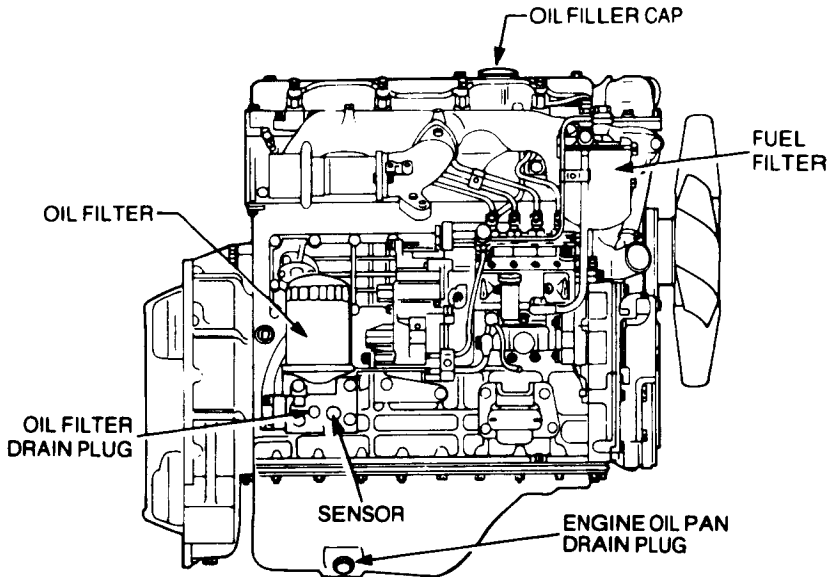

Figure 3-5 Engine — right hand side
**322.** Run the engine until the engine coolant reaches normal operating temperature then shut down the engine. Remove the engine oil pan drain plug (see Fig. 3-5) and drain the oil into a suitable receptacle before the engine cools. Remove the drain plug from the oil filter adapter (see Fig. 3-5) and drain the oil into a suitable receptacle. Fit new sealing washers to both drain plugs and install the drain plugs in their respective positions.